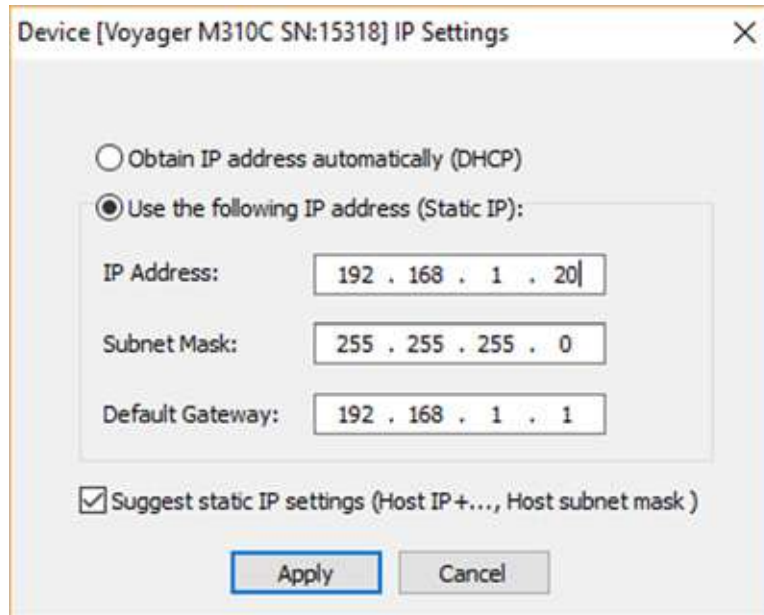

Figure 3.28: Setting Static IP Address for Analyzer
- Now select the IP Settings tab to configure the analyzer with an appropriate IP address (see Figure 3.28 below). In this case we've used the same subnet settings as our host PC but set the LSBs of the IP Address to "20" so that the analyzer won't interfere with our host PC (that has an IP address of 192.168.1.15). See Figure 3.25 on page 129 for reference.